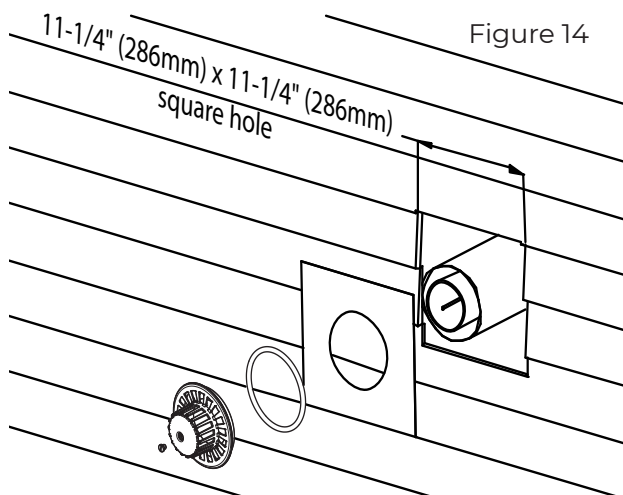
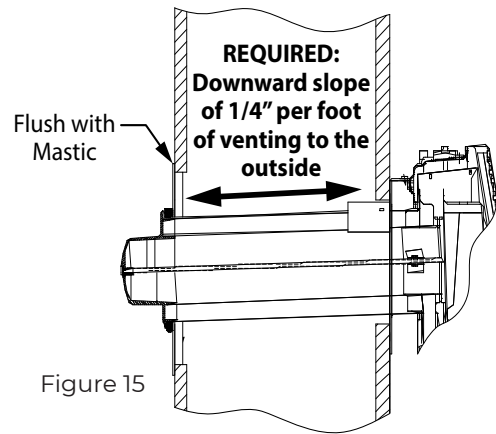

Figure 14
Figure 15
- (B) vent pipe
- (C) vent-air intake pipe
- (D) rod
- The hole at the outside of the wall must be a square of 11-1/4" (286 mm) X 11-1/4" (286 mm) (see figure 14).
- From the outside of the wall, screw the rod (D) slightly onto support located inside the appliance flue outlet.
- Wrap the vent-air intake pipe (C) with the provided insulation (i) (foil side out) and place the provided strip of tape (H) down the seam to secure it.
5. Slide the vent pipe (B) and vent-air intake pipe (C) through the hole in the wall, and connect them to the appliance flue outlet and air intake, respectively.
6. The outdoor mounting plate (F) and the silicon-rubber ring (G) should be installed between the vent cap (A) and the exterior wall. Note: For additional security the outdoor mounting plate (F) can be attached to the outside of the wall using the appropriate hardware for mounting to the surface of the building. The outdoor mounting plate (F) must be positioned flush to the wall and sealed with a non-hardening mastic (silicone caulk). Position the outdoor mounting plate (F) so that the vent-air intake pipe (C) has a slight downward slope of 1/4" per foot of venting to the outside.
7. Before attaching the vent cap (A) to the exterior wall, run a bead of non-hardening mastic (silicone caulk) around its outside edge, so as to make a seal between it and the outdoor mounting plate (F) (see figure 15).
8. Slide the vent cap (A) into position and secure into place using the provided nut (E). Tighten nut (E) down until the vent cap (A) leans against the outdoor mounting plate (F) (see figures 14 and 15).